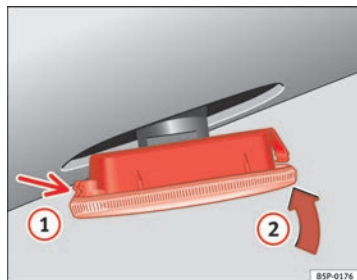

Fig. 223 Side indicator
- First place the indicator in the opening in the bodywork, fixing the tabs ⇒ fig. 223, arrow ①.
- Insert the bulb as shown by the arrow ② ⇒ fig. 223. ■